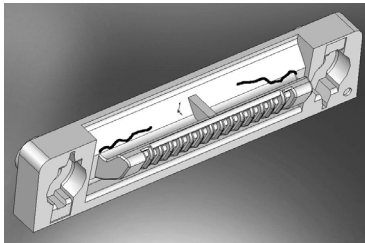

Figure 1: Male IUI Connector (right Side)
1. Visually inspect the right side (male) IUI connector for cracks on the entire surface of the black colored plastic housing. See Figures 1 and 2 for the male IUI inspection area and typical cracks.